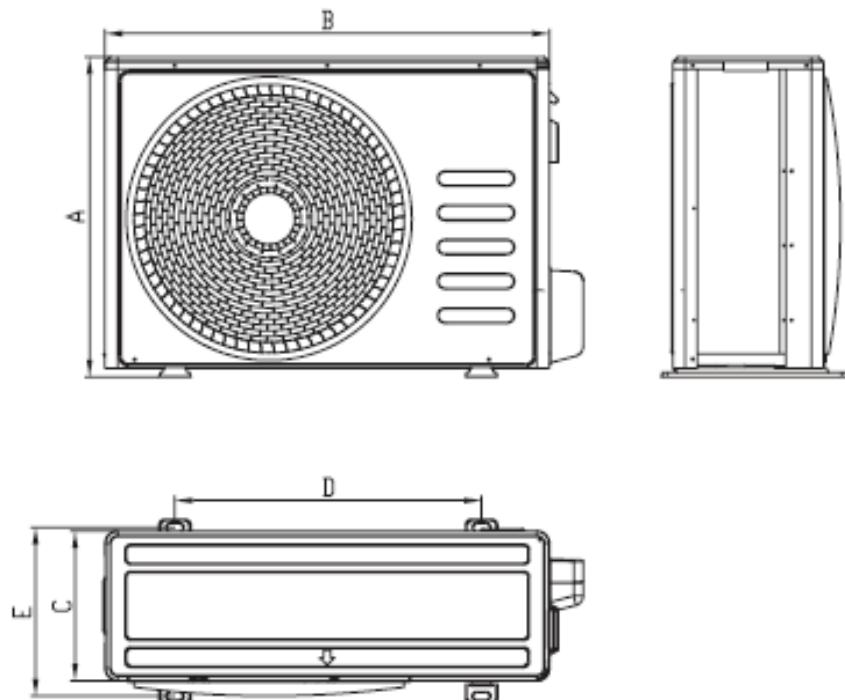

Fig. 7.1.2. (a)
See fig. 7.1.2. (a) and table 7.1.2. for outline and installation dimensions of outdoor units KC II+-18/O, KC II+-24/O and KC II+-36/O. See fig. 7.1.2. (6) and table 7.1.2. for outline and installation dimensions of outdoor units KC II+-48/O and KC II+-60/O.